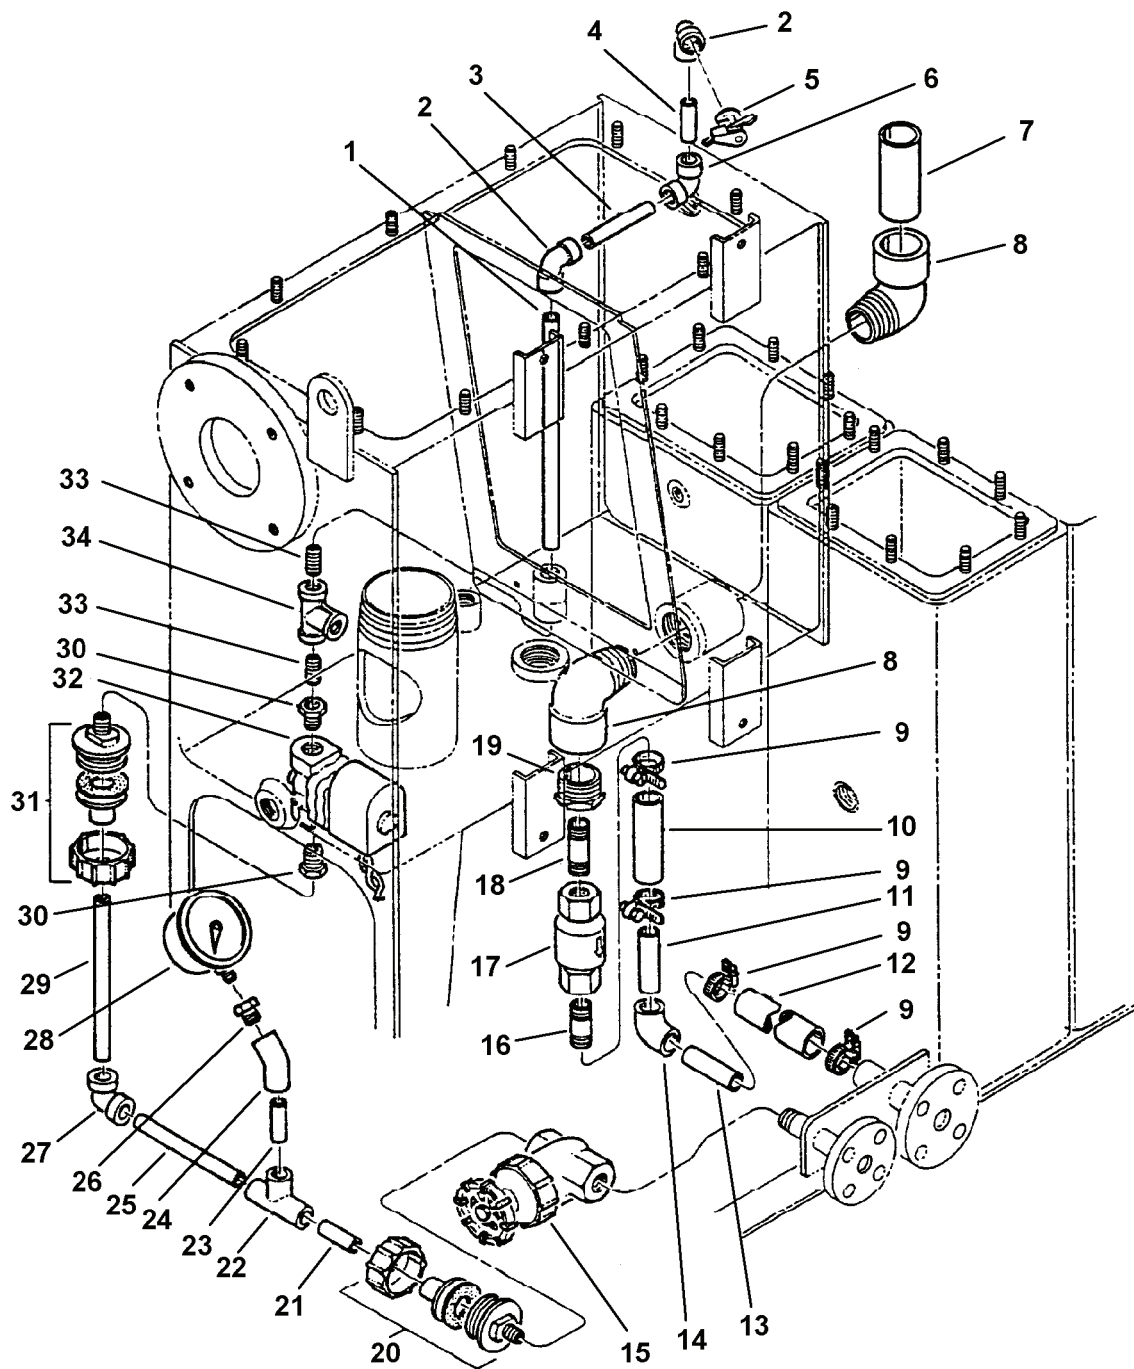

Figure 2-23. Backwash Piping Assembly Group.
2-20. Backwash Piping Assembly Group. (Figure 2-23)
- b. Remove the gate valve (15, Figure 2-23):
- (1) Disconnect the water supply line at the valve inlet coupling (20, Figure 2-23).
- (2) Remove the gate valve (15) from the pipe nipple.
- (3) Remove coupling half (20) and retain.
- c. Remove the dial indicating pressure gauge (28, Figure 2-23):
- (1) Unscrew gauge (28) from bushing (26). Remove the gauge by turning it counterclockwise.
d. Remove the backwash solenoid valve (32):
- (3) Unscrew bushing (30, Figure 2-23) on bottom of backwash solenoid valve (32).
- (4) Unscrew solenoid valve (32) from upper bushing (30) and remove.
e. Remove the discharge check valve (17):
a. Replace the ball check valve (17, Figure 2-23).
- (1) Replace lower section of piping (9, 11, 12, 13, 14 and 16).
- (2) Replace check valve (17) onto upper nipple (18) and replace reconnect lower nipple (16).
- (3) Replace hose (10) and hose clamps (9) onto lower nipple.
- b. Replace the backwash water solenoid valve (32, Figure 2-23).
- (1) Screw backwash solenoid valve (32) onto upper bushing (30).
- (2) Screw lower bushing (30) on bottom of backwash solenoid valve (32).
- c. Replace the dial indicating pressure gauge (28, Figure 2-23).
- (1) Apply Teflon Tape to the threads of the new gauge (28).
- (2) Install the gauge into the pipe bushing. Turn the gauge clockwise to install.
- (3) Align the gauge and secure the locknut at the base of the gauge and hand tighten.
- d. Replace the gate valve (15, Figure 2-23).
- (1) Apply Teflon Tape to the connections, and install the gate valve (15) to the coupling half (20) and the valve inlet coupling.
- (2) The water inlet is now connected to the sanitary unit. Close the valve by turning the handle fully clockwise.
- (3) Open the external water supply valve to the sanitary unit. Check for leaks at the inlet of the gate valve (15) and correct as required.
- (4) Open the gate valve (15).